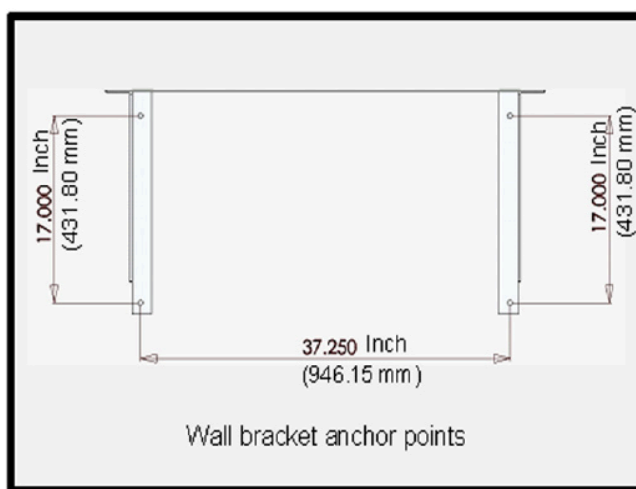

Figure 2
STEP 2: Using the included wall-mount brackets, mark out the anchor points on the wall with the correct spacing (see Figure 2 on Page 6).